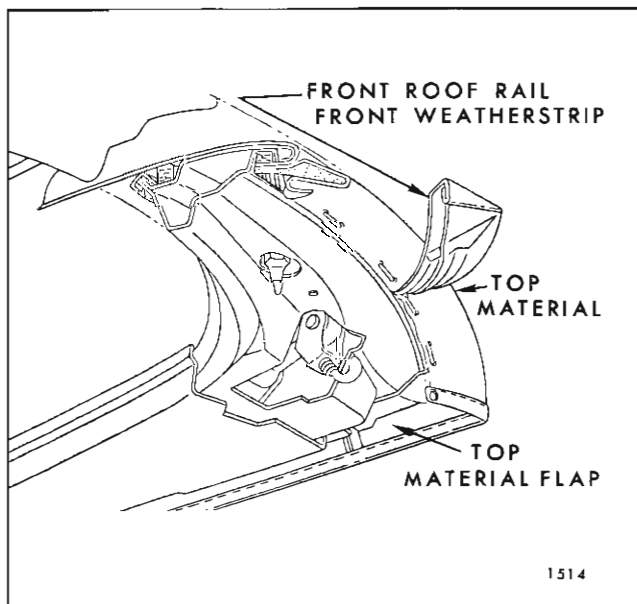

Fig. 1-I-25—Front Roof Rail Assembly
8. Remove front roof rail front and rear weatherstrips (Fig. 1I25).
9. Detach top material from front roof rail (Fig. 1I25).
10. Detach top material flaps from side roof front rail (Fig. 1I25).